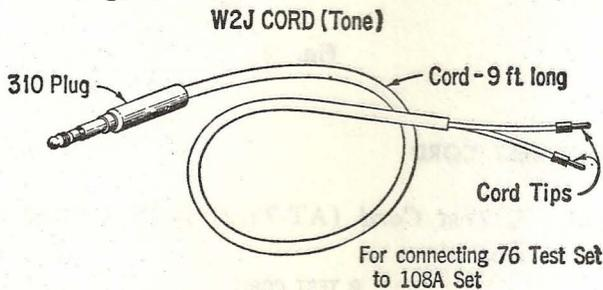

Fig. 6
4.04 W2J Cord: This cord is illustrated in Fig. 6.